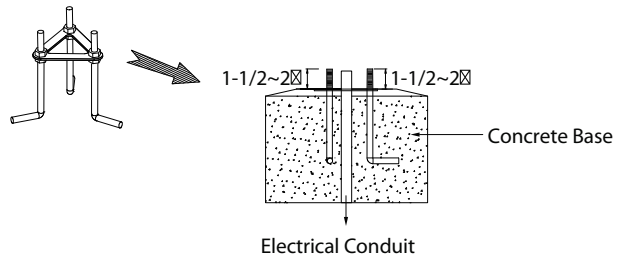

Fig 2
3. Install 3 anchor bolts into concrete as per attached Fig. 2, having at least 1-1/2~2" protruding from concrete with threads free and clear of debris and dirt (Electrical conduit are reserved in the concrete center).